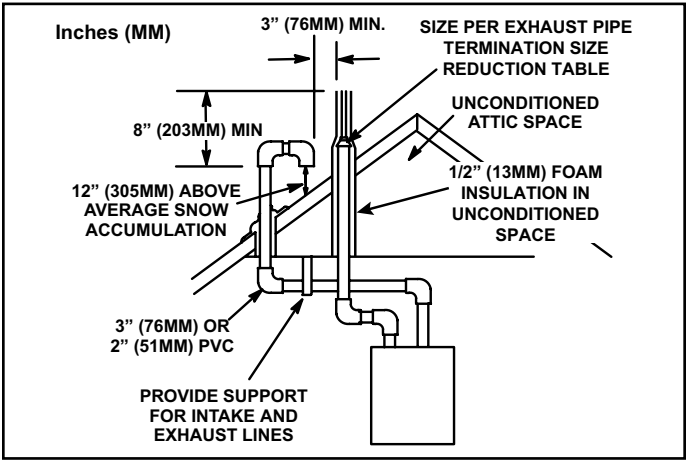

Figure 36. Direct Vent Roof Termination Kit (15F75 or 44J41)
Intake and exhaust pipes may be routed either horizontally through an outside wall or vertically through the roof. In attic or closet installations, vertical termination through the roof is preferred. Figure 36 through Figure 43 show typical terminations.
- 3. On roof terminations, the intake piping should terminate straight down using two 90° elbows (see Figure 36).